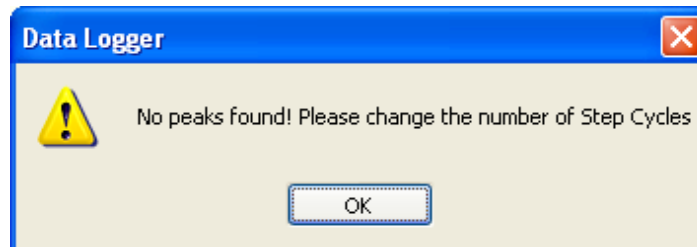

Figure 32: Error in Peaks entered in Edit Window. Click OK and enter new value
5. If a number of step cycles cannot be confirmed by the analysis program the message in Figure 32 appears requesting a change in the number of step cycles: